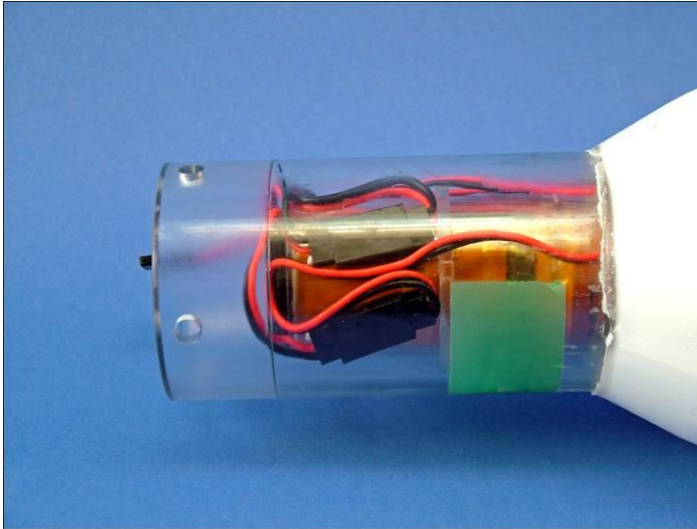

Fig. 7 GPS/ARGOS battery pack installed with connectors properly placed between battery holder assembly and housing.
3. Battery connectors must be connected and placed in the space between the battery holder assembly and the inside wall of the housing. Connectors and wires must be below or at the same height of the foam padding on the end of the GPS/ARGOS battery pack. **(Fig. 7)**